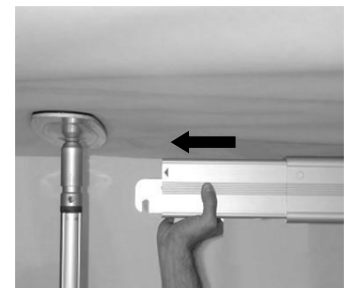

**Figure 26**
- After you have both posts secured, install the end of the rail (see Figure 9 – item #1) marked "Step 1" onto one post (see Figure 26).
**Tilt the rail upward (45°) to latch the rail onto the post (see Figure 26).**